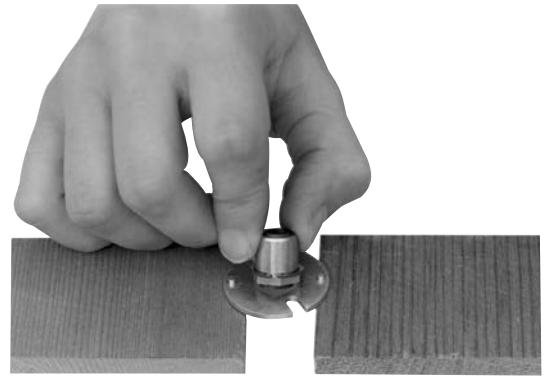

Figure 3
2. The **standard armature** and hub must be assembled before it can be installed. Assemble the armatures so that the shiny surfaces (120 and 170) or backing plate sides (250 and 400) are against the hub retainer ring (Figure 3).